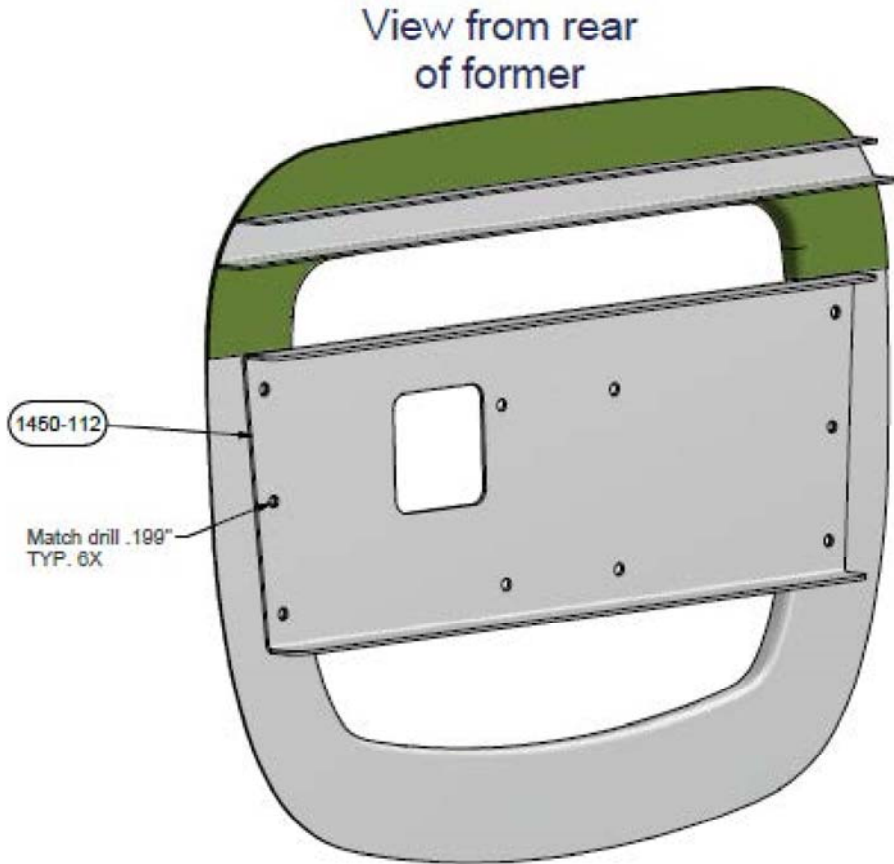

Figure 3-6
- vii) Match drill the former with the 6 holes in the Cessna 177 Pitch Plate, (P/N 1450-112) as shown in Figure 3-6. After drilling each hole secure the pitch plate to the aircraft using a cleco or 10-32 bolt.